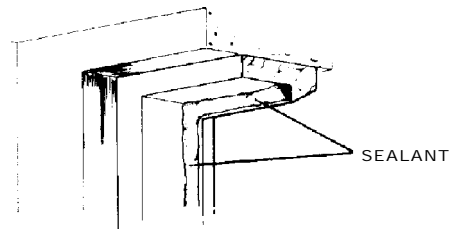

FIG. 5
C. Apply silicon or equivalent sealant into the rebate of the sub-frame. FIG. 5.